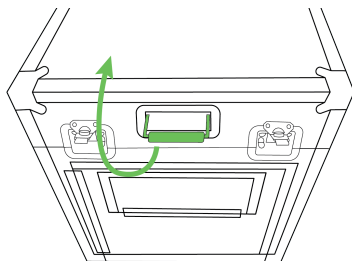

Figure 6-51. Opening the top compartment
2. Grab the middle handle to open the top compartment (Figure 6-51).